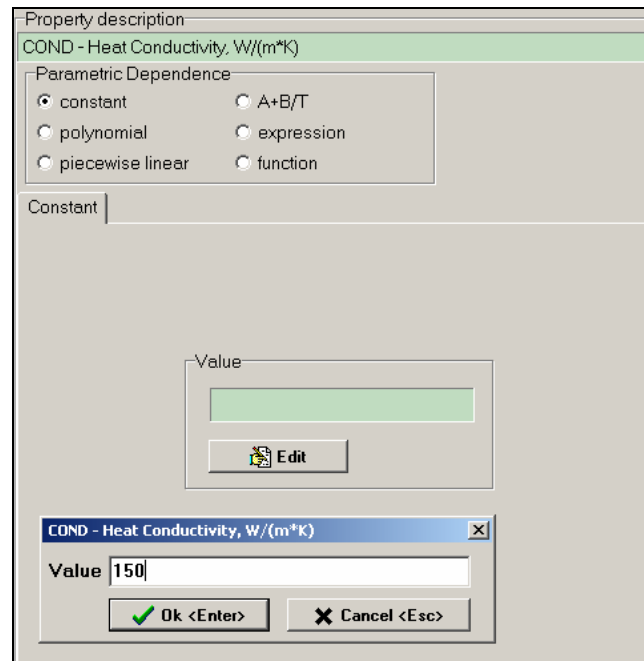

Fig. 47
- **Constant** (see Fig. 47). For a constant specification of the selected material characteristic, the *Property Description* section contains a text field **Value** and button **Edit** allowing the user to change the value.